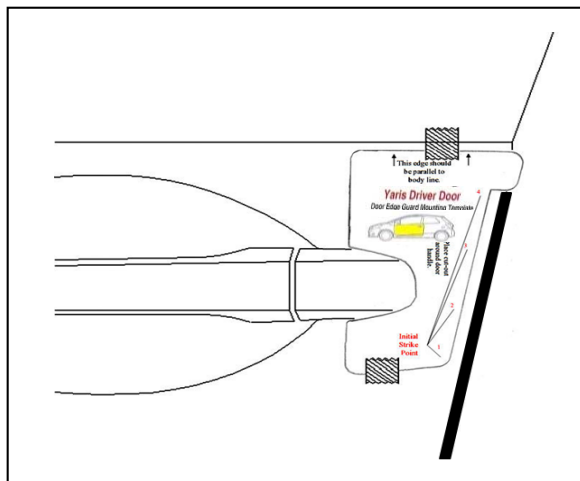

Fig. 1-4
**NOTE:** The top of the DEG can be identified by matching the profile of the DEG to the door profile (Fig 1-4).